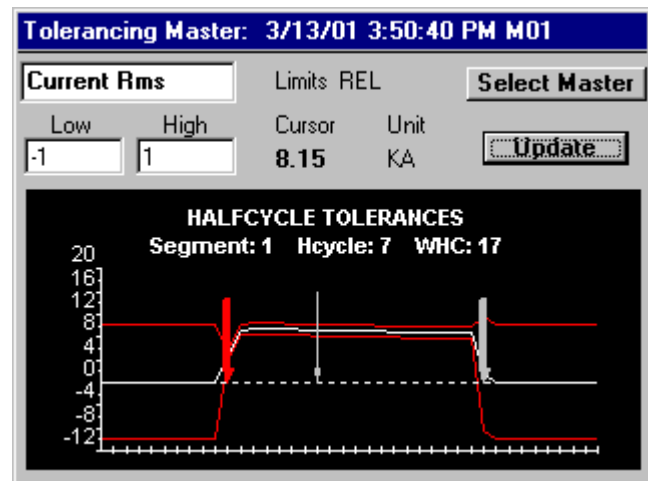

Figure 5-19 Master with Low/High tolerances changed
5. Press the **Update** button. After a few moments, the screen should now look similar to figure 5-19. Notice that the tolerance bands have adjusted accordingly.